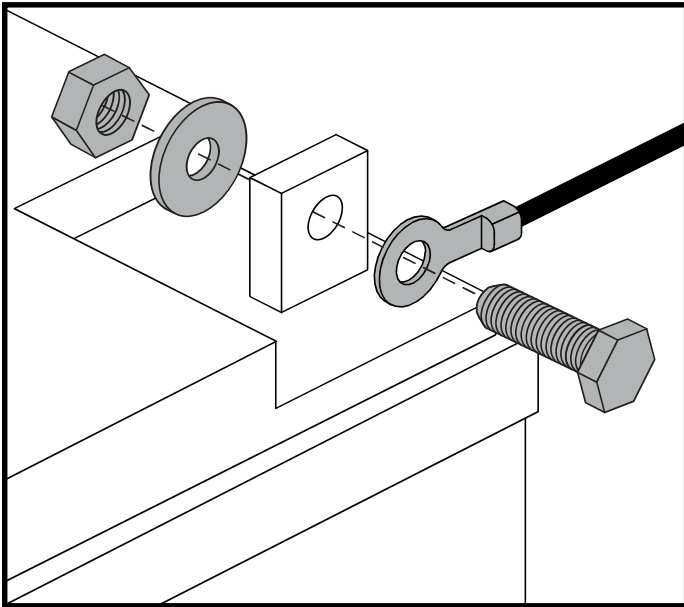

Figure 17. Battery Terminal Hardware - Configuration 1
4. Disconnect the battery cables from the battery terminals by sliding back the terminal boots and unscrewing the nut from the bolt. See figures 17 and 18.